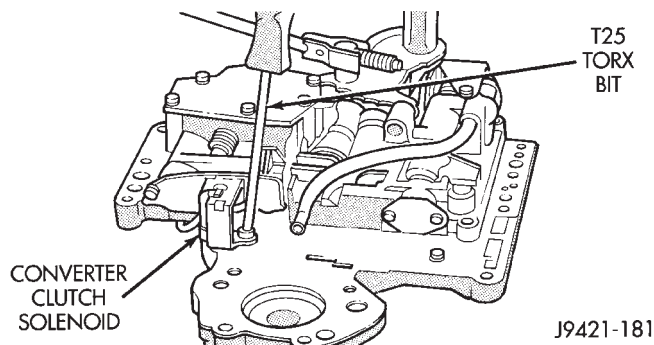

Fig. 114 Converter Clutch Solenoid Removal
(13) Position transfer plate on bench so separator plate, filter and lockup solenoid are facing up. This will avoid having rear clutch and rear servo check balls fall out when plates are separated.
(14) Remove screws attaching separator plate to transfer plate.
(15) Remove converter clutch solenoid from separator plate (Fig. 114). A T25 torx bit is required to remove solenoid attaching screw.